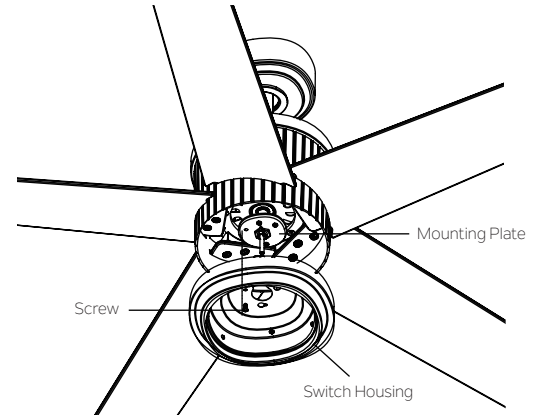

Fig. 19
Step 1. Remove the screw marked with a dot label which is preinstalled on mounting plate and keep for later use. Loosen the other two (do not remove). Place the two slot holes on the switch housing over the 2 screws previously loosened from the mounting plate. Rotate the switch housing until it locks in place at the narrow end of the key holes. Secure by tightening the 2 screws previously loosened and the one previously removed. (Fig. 19)